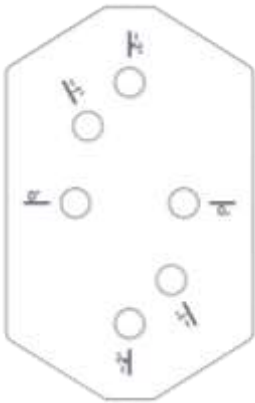

Figure 6: Bottom bracket
9. If a tilt other than 0 degrees is desired, reposition the antenna according to the hole numbering on tilt select arm 10, *Figure 5*, and downtilt *Table 2*. For bottom bracket 8, *Figure 6*, use 0 degrees for downtilt, and -1 or -2 degrees for uptilt. Then tighten all fasteners to 20 lb-ft.